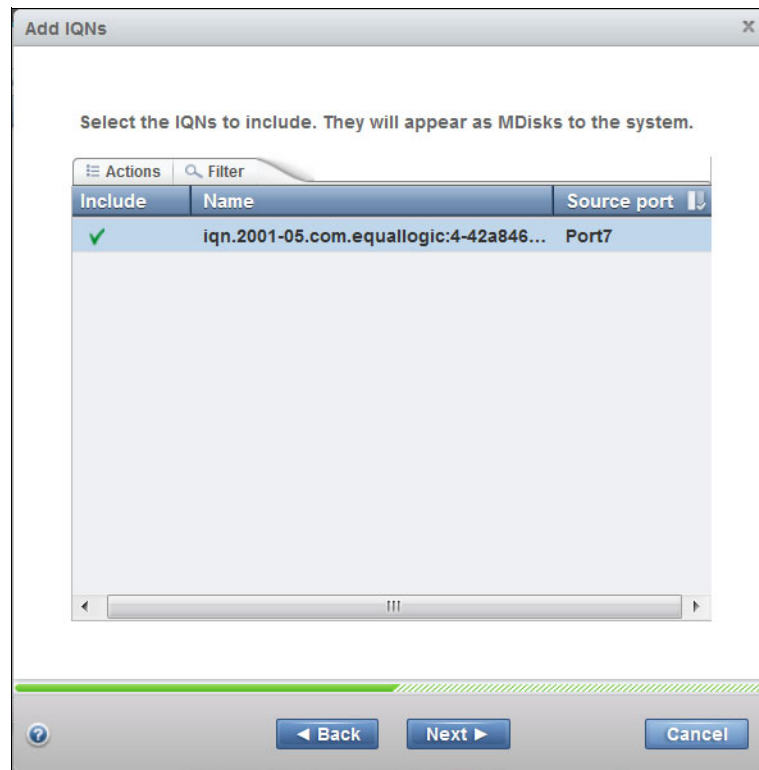

Figure 14-31 Included LUN to connect from the initiator system
9. The LUN discovery window shows the included status and the appropriate port from where the LUN is included. In Figure 14-31, port 7 is selected to connect the back-end LUN. Perform this task for all of the LUNs that you are planning to include. Click **Next** to proceed.